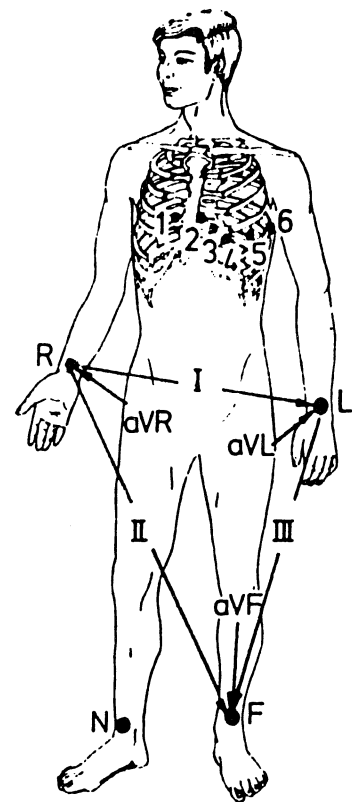

Fig. 3-2
3. Next apply the electrodes to the chest area (positions C1 through C6) - please refer to Fig. 3-2.